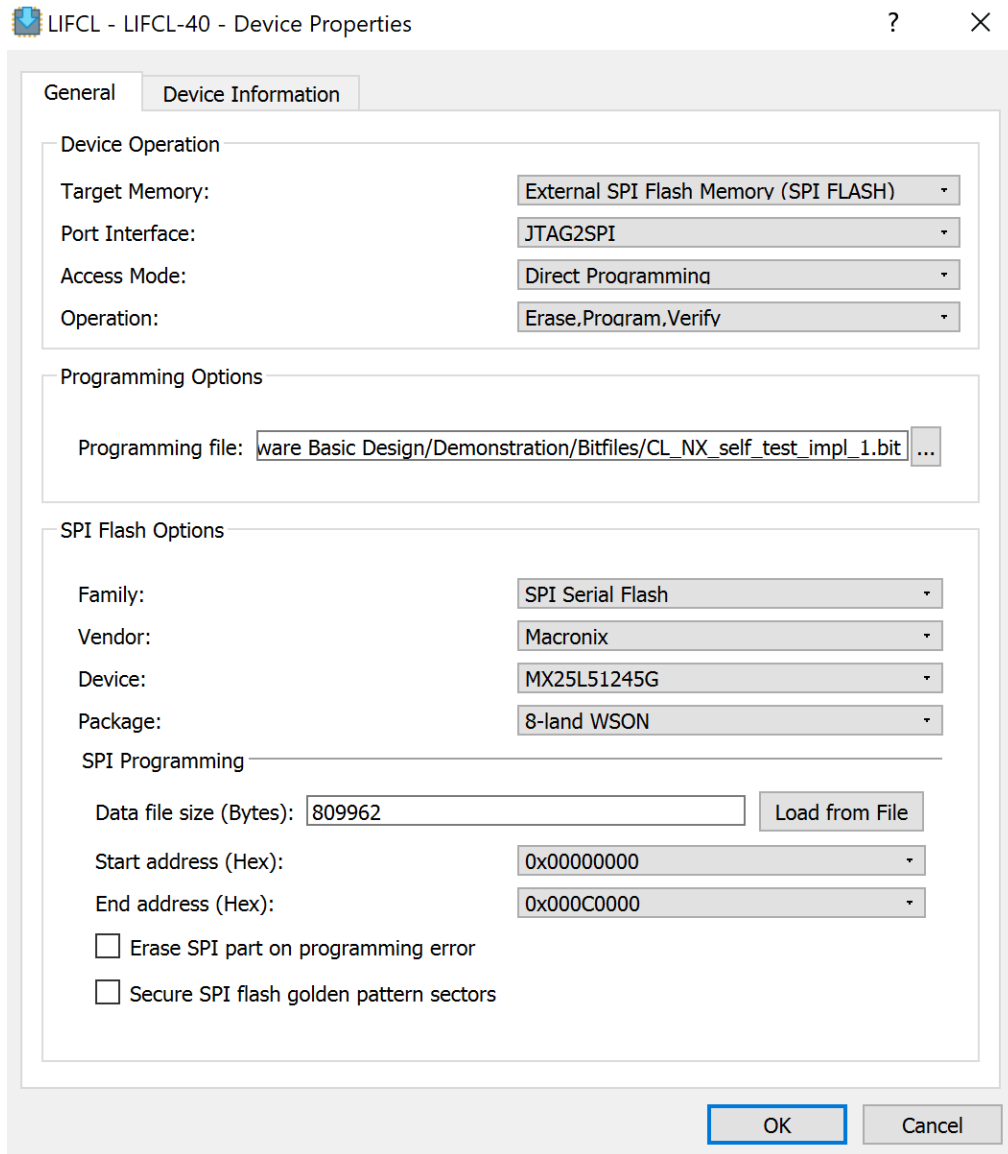

Figure 6.4. Device Properties Dialog for SPI Flash Programming
6. Click on *Fast Configuration* from the Operation column (Figure 6.3). The Device Properties dialog pops up (Figure 6.4). Change the Target Memory settings using the drop-down menu, and then you can see the device properties settings exactly as those shown in Figure 6.4.
7. Browse to choose the programming file <Drive>://<Project_Folder>/Hardware Basic Design/Demonstration/Bitstream CL_NX_self_test_impl_1.bit (Figure 6.4).